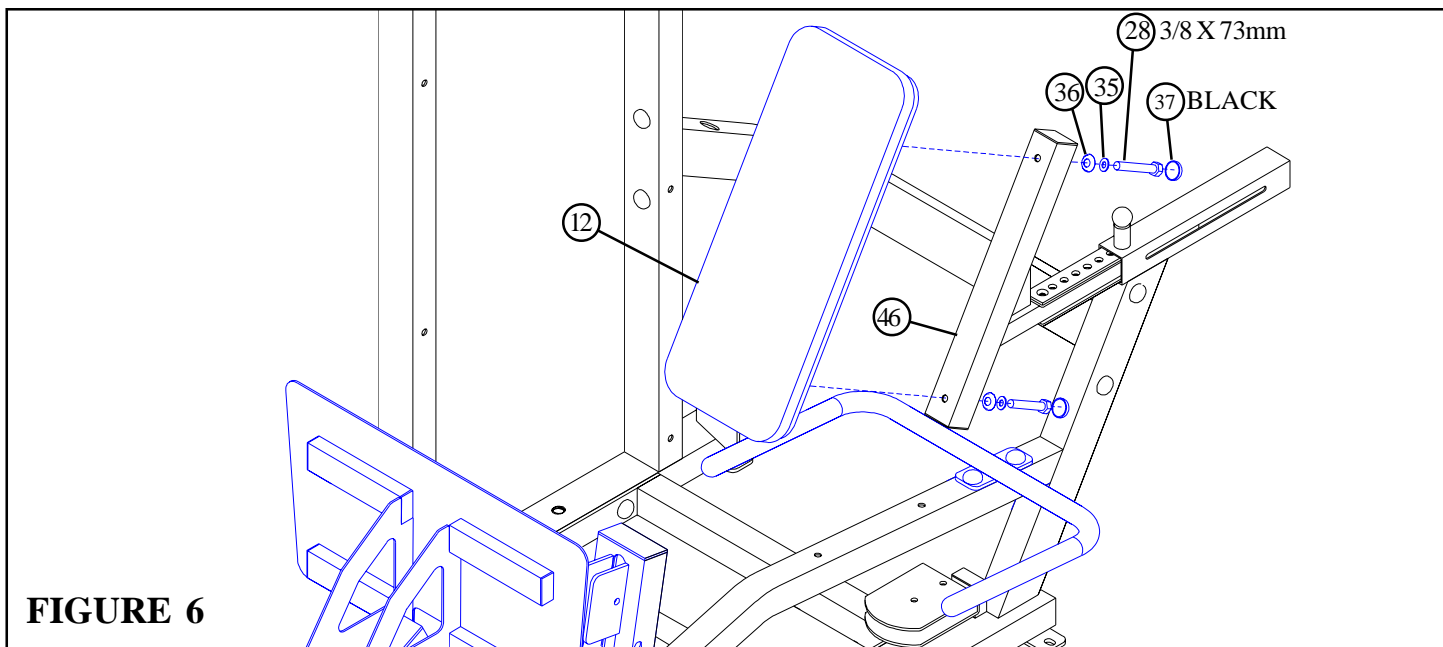

FIGURE 6
- **SECURELY** assemble the BACK PAD (12) to the BACK PAD ADJUST (46) using two BLACK RH CAPS (37), two 3/8 X 73mm BOLTS (28), two 3/8" SAE WASHERS (35) and two 3/8" RH WASHERS (36) as shown in FIGURE 6.